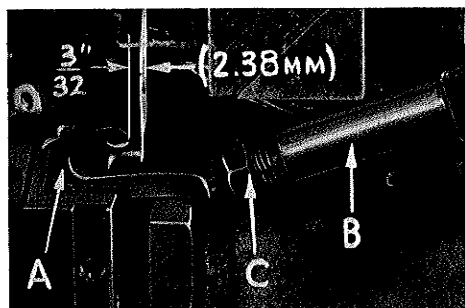
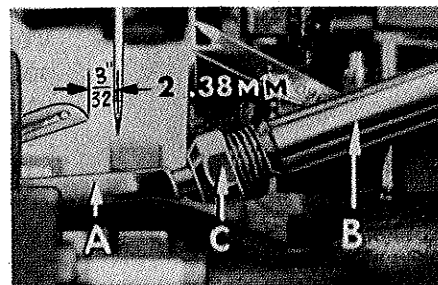

Fig. 6A
Fig. 6
into bar (B). With lower looper or spreader at left end of its stroke, set looper or spreader point  $3/32$  inch (2.38 mm) from centerline of needle (Fig. 6 or 6A) using looper gauge No. 21225-3/32. Do not have lower looper or spreader deflecting needle. Tighten nut (C). Now assemble differential (front) feed dog.
At this point, insert lower looper (A, Fig. 6) on Styles 39500 QG, SD and TC or lower spreader (A, Fig. 6A) on Style 39500 RN